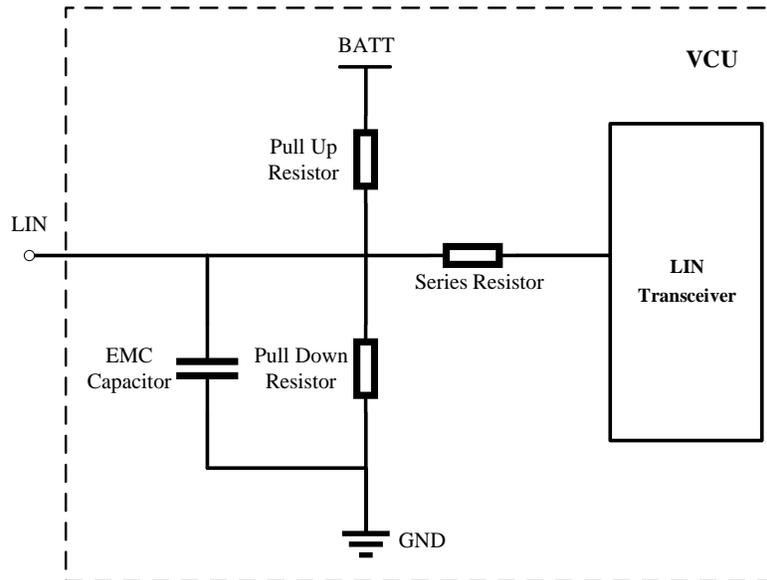
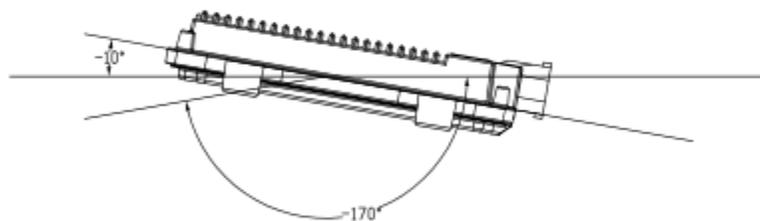

Figure 12 LIN Bus Schematic
Figure 13 Horizontal Installation Angle
7. FCU should be installed in the horizontal and vertical position according to the connector downwards and maintain a certain angle to prevent water from entering the connector. In the horizontal direction, the recommended installation angle is -170° to -10° , as shown in Figure 12 below. In the vertical direction, the recommended installation angle is -170° to -10° , as shown in Figure 13 below.